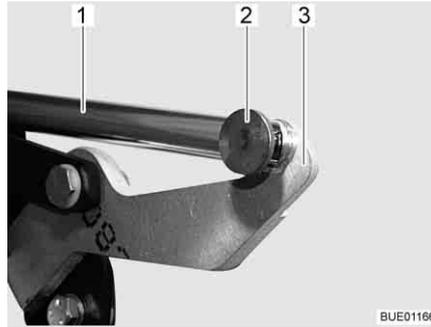

Fig. 126 Drive
- Remove the connection (e.g. splint and pin) (Fig. 126,2) between the push rod (Fig. 126,1) and lever (Fig. 126,3).